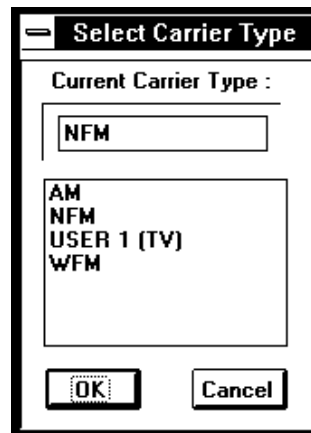

Figure 5-12: Select Carrier Type Dialog Box
1. Click on **Marker** in the Spectrum Analyzer Menu Bar and then Select Carrier Type to open the Select Carrier Type Dialog Box (Figure 5-12).